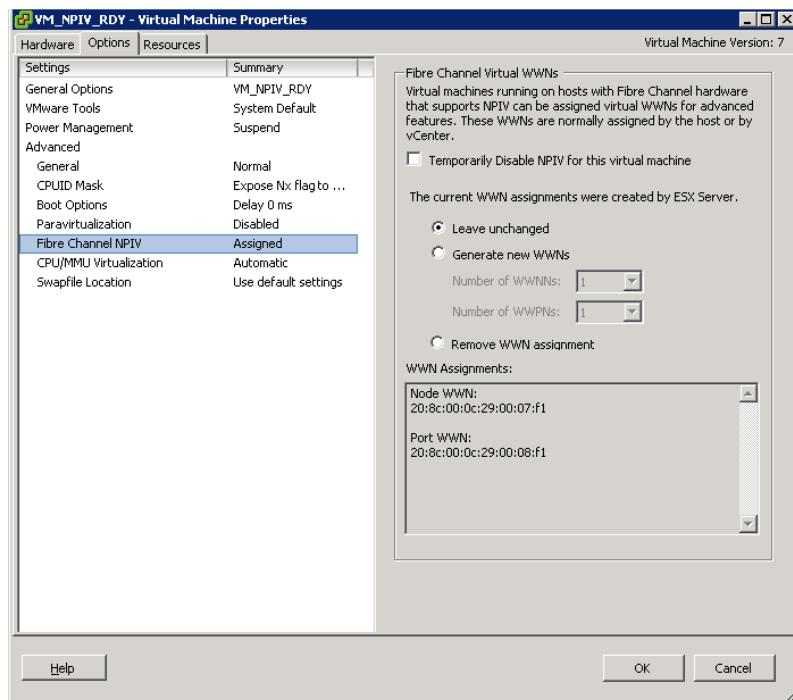

Figure 5-45. Confirm Node and Port WWNs
- c. Confirm the node WWN and port WWN in the WWN Assignment field of the Virtual Machines Properties window (Figure 5-45).